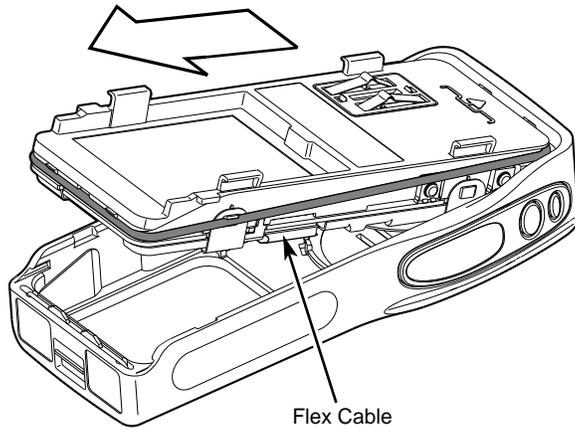

Figure 3-5.
4. Disconnect the flex cable connector using a flat blade screwdriver, as shown in Figure 3-5.
5. Pull the chassis out and away from the housing as shown by the arrow in Figure 3-5.